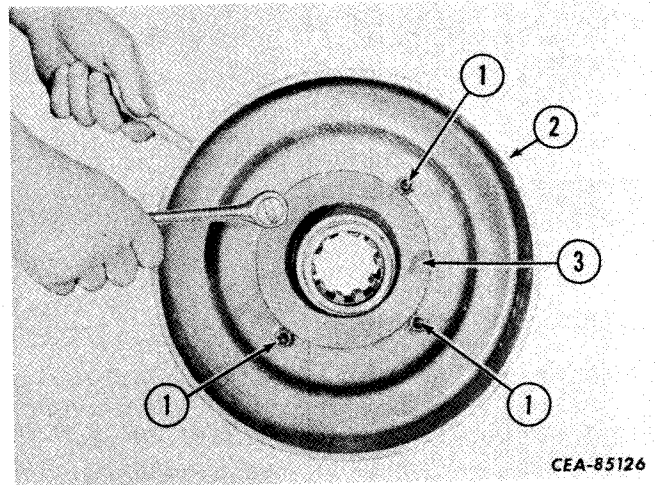

Figure 13-102
Remove the cap screws and locknuts (1, Fig. 13-102) that secure the drum (2) to the yoke (3). Separate the drum and yoke.